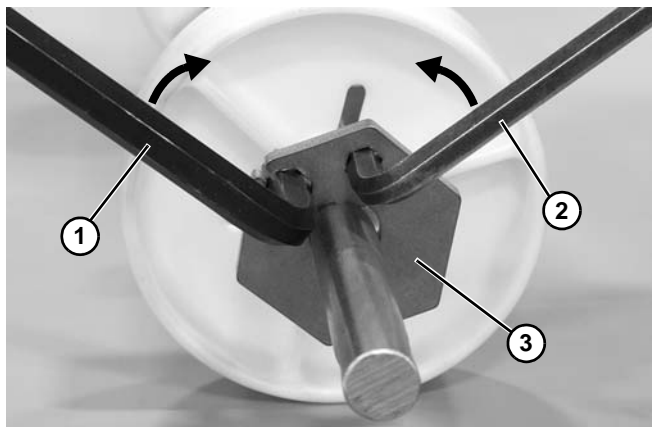

Figure 88
- a. Insert an 8 mm (Figure 88, item 1) and 6 mm (Figure 88, item 2) hex wrench into the retainer plate.
- b. Move wrenches toward each other to open the retainer plate (Figure 88, item 3) and install onto the shaft. Position retainer plate where needed.